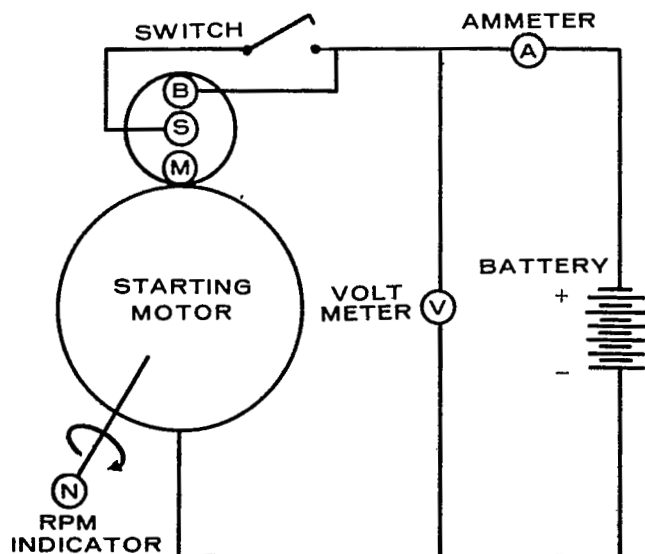

FIGURE 38. WIRING STARTER FOR NO LOAD TESTS
1. For no load test, the starting motor is wired as shown in Figure 38 and run. The value of the meter reading at this condition should be as follows: